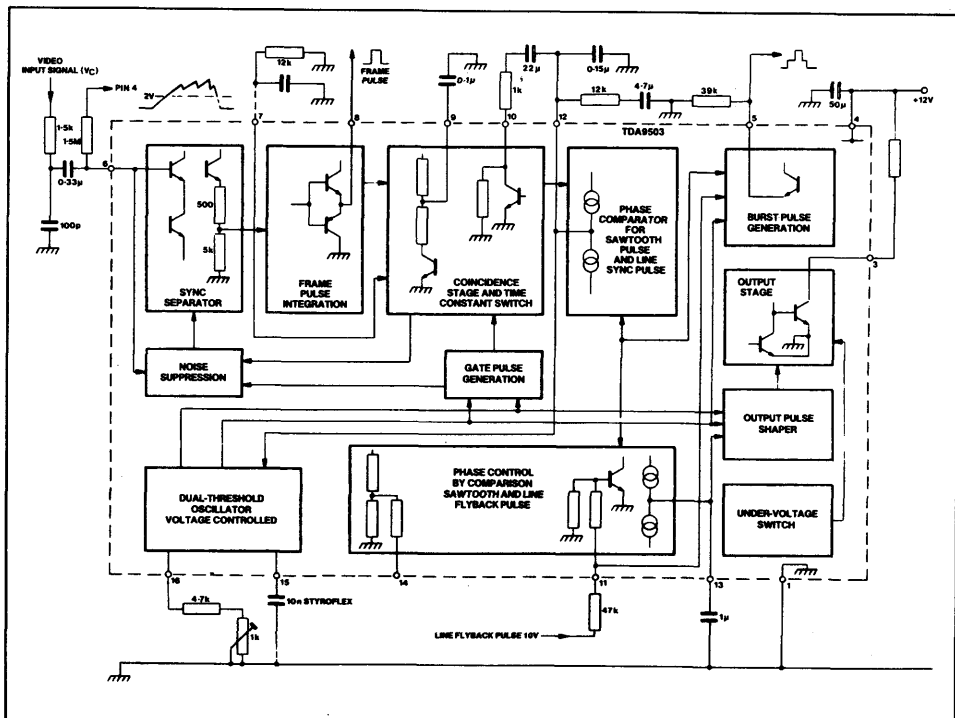

Fig.2 TDA9503 block diagram and test circuit
6. The adjustment of the overall phase relation and consequently the leading edge of the output pulse occurs automatically by phase detector 2 (See Fig. 2)
The TDA9503 is a monolithic integrated circuit for pulse separation and line synchronisation in TV receivers. The output stage of the TDA9503 (see Fig.2) supplies signals suitable for driving transistor line output stages.
$V_s = 12V, f_o = 15625 Hz, T_A = 25^\circ C$ in the test circuit Fig.2.